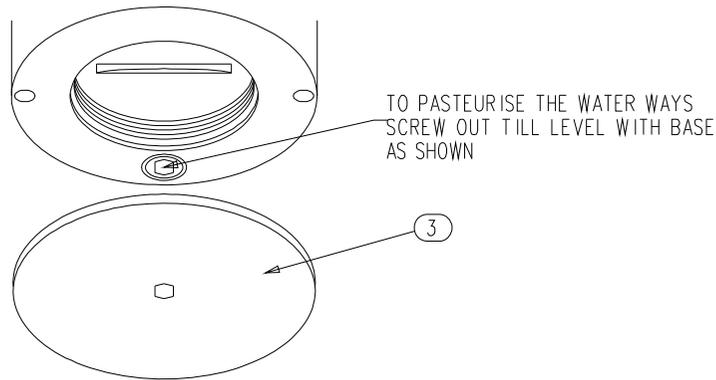

Fig 4
- 2) The cold water isolator should be closed, this is accessed by unscrewing the shroud (13) and pulling it back along the elbow taking care not to scratch the chrome, the 2.5mm hexagon wrench is inserted in the isolating plug (6) and rotate it clockwise until it locks.
- 3) The back cover (3) is unscrewed using a 2.5mm hexagon wrench and put to one side.
- 4) The flushing screw (19) is unscrewed downwards till it is level with the bottom of the body (do **not** remove completely) see Fig4.
- 7) The flushing screw (19) is screwed upwards till it locks.
- 8) Replace the back cover (3), reinstate the cold water and replace the shroud (13).